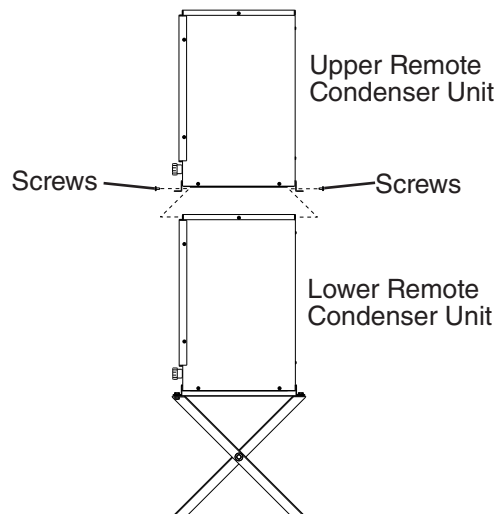

Fig. 17
- 2) Place the upper remote condenser unit on top of the lower remote condenser unit. See Fig. 17.